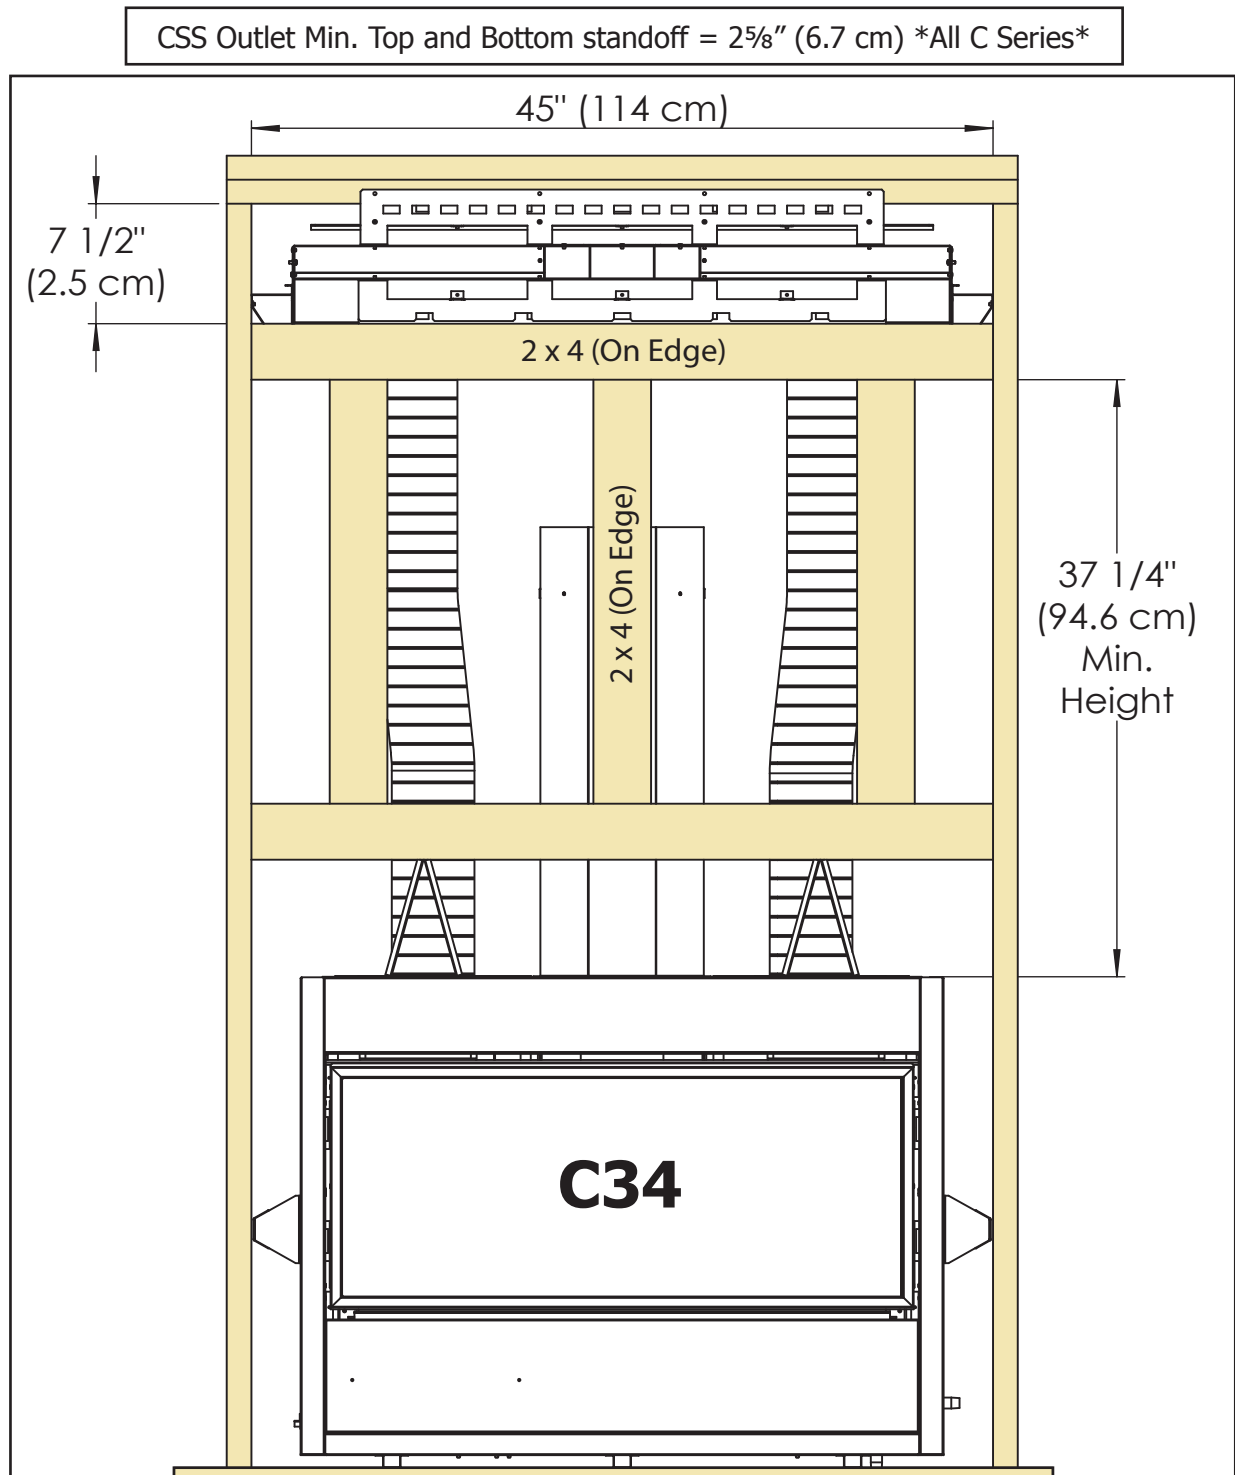

Figure 6. C34 - CSS Framing & Rough Opening
Refer to Figures 6 & 7 for the minimum allowable framing and rough opening of the CSS.
Step 1: Frame in the rough opening for the CSS as shown in Figures 6 & 7 (Pages 5,6) in the desired location following all required clearances as stated in the FRAMING & CLEARANCES section.